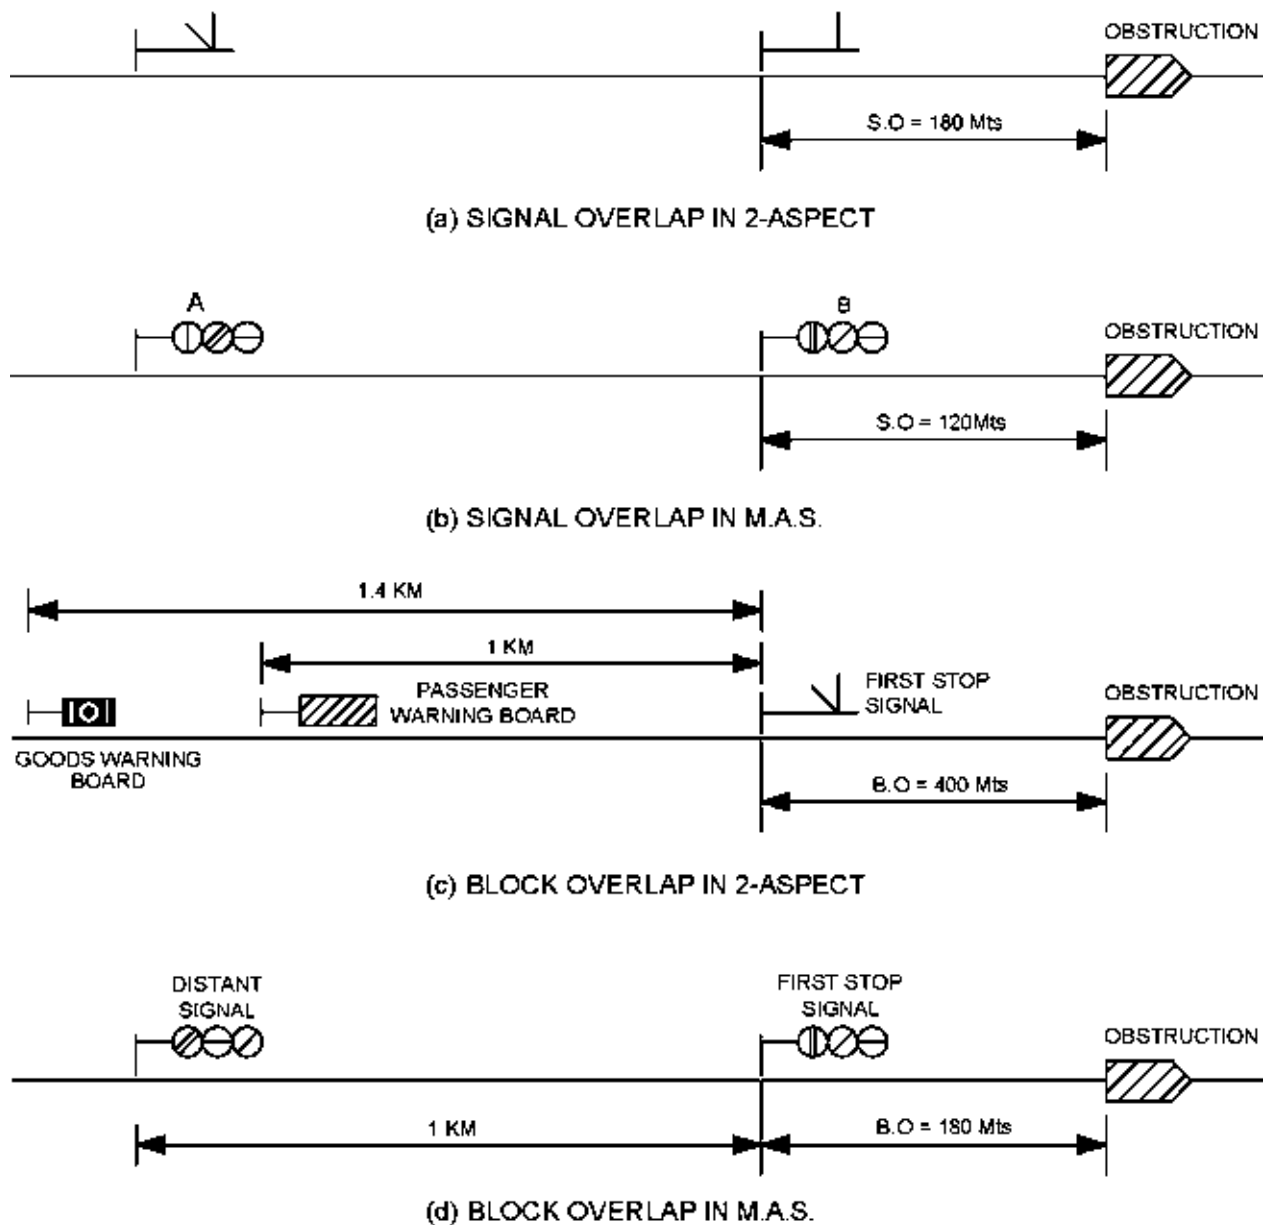

Fig. 8.2 OVERLAPS
8.2 A reduction in the overlaps in Multiple aspect signalling as compared with Two aspect is a rational development as it serves to increase section capacity and the efficiency of operation of signals without sacrificing safety. It can be proved that by increasing the number of aspects, the overlaps can be progressively reduced but this will only be of academic interest at the present time. The fact that safety margin is not reduced by the reduction of overlaps in MAS is shown in the figure 8.2.
Please see figures 8.2 (c) and (d) showing the block overlap required in Two aspect and MAUQ systems. In case of (d) the aspect of the stop signal is pre-warned by the signal in rear. The distance between the obstruction and the indication of the obstruction in case of (c) is NBD +400 Mts and in case (d) NBD+180 Mts. The margin of safety is in fact greater in (d). As in MAUQ the first stop signal displaying the 'ON' aspect is approached at cautious speed, but in Two aspect it may be approached at full speed. It may be argued that the block overlap in Two aspect can be reduced where a separate Warner is used and this would be correct provided the Warner is completely reliable. But, so long as Warner is operated by single wire mechanical transmission without signal reverser (electrical control), the irregular operation of the Warner cannot be ruled out. When the Warner is 'OFF' in an irregular manner, conditions then obtaining would be worse than in Two aspect class „A“ station. The Two aspect Warner is by no means a repeater of the first stop signal but an MA it is Distant. Figure (a) and (b) show the signal overlaps of a Two aspect and MAUQ systems respectively. In figure (a), the first stop signal displays the clear aspect whether the next signal is at 'ON' or at „OFF“. The ability of a driver to stop at signal „B“ depends entirely on the sighting distance of „B“ being adequate and the driver obtaining a view of the aspect of this signal in time. In figure (b) aspect of B is repeated in signal „A“, and since „A“ is displaying 'Caution' speed is reduced at „A“ and the driver approaches „B“ at cautious speed, prepared to stop at „B“.